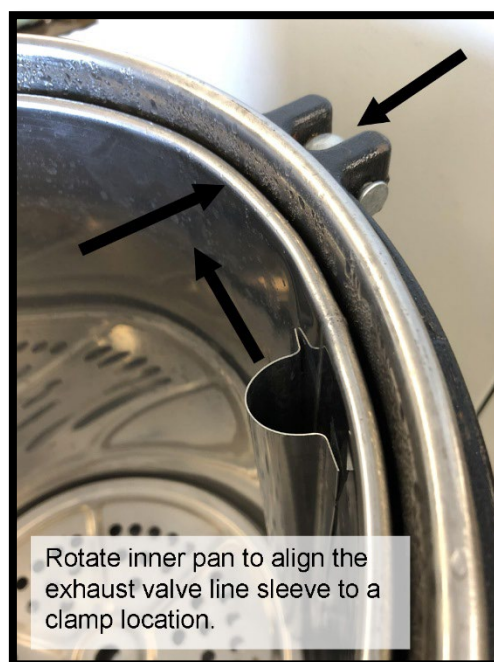

Figure 1. Adjusting the location of the inner pan.
- h. Replace the inner pan and rotate it so that the protective exhaust valve line sleeve on the inside of the pan is aligned with one of the lid clamp locations (see Figure 1). Make sure that the perforated base plate is inside and on the bottom of the inner pan.